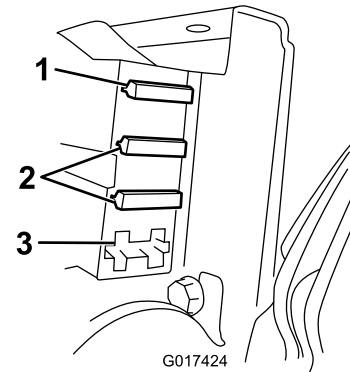

Figure 37
3. Check the fuses in the fuse block (Figure 37).
- If any of the fuses are blown, replace them with a fuse of the appropriate voltage and amperage (Figure 37).